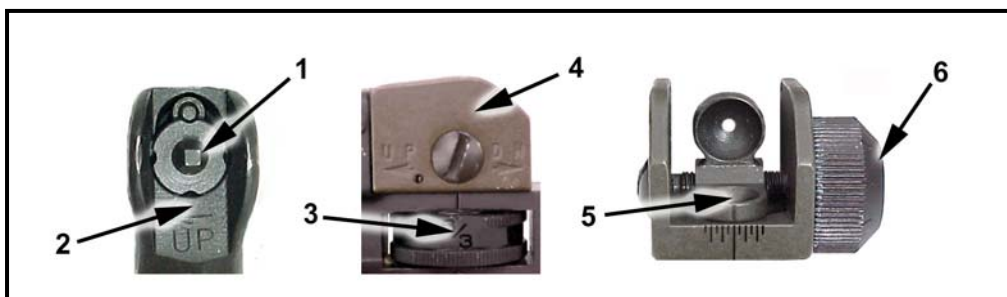

Figure 2-5. M16A2/A3 rifle mechanical zero.
(1) **Mechanically Zeroing the M16A2/A3.** Mechanically zeroing the weapon (Figure 2-5) is only necessary when the weapon zero is questionable, the weapon is newly assigned to the unit, or the weapon sights have been serviced. If necessary, the soldier should mechanically zero the weapon as follows: